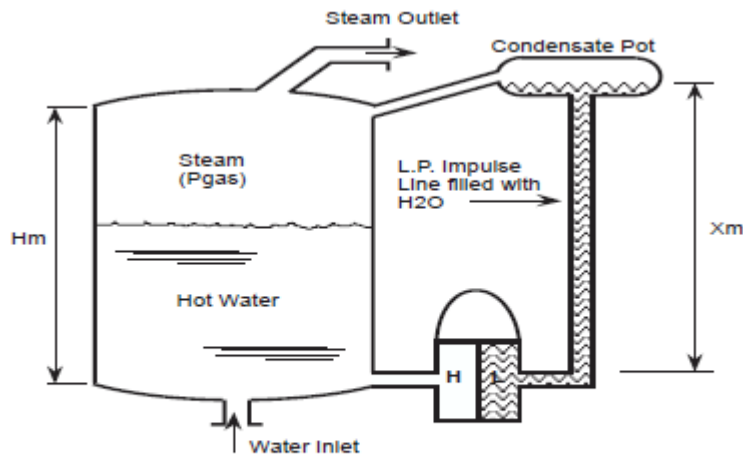

Figure 7
When a wet leg installation is used (see Figure 7 below), the low-pressure side of the level transmitter will always experience a higher pressure than the high-pressure side. This is due to the fact that the height of the wet leg (X) is always equal to or greater than the maximum height of the liquid column (H) inside the tank.